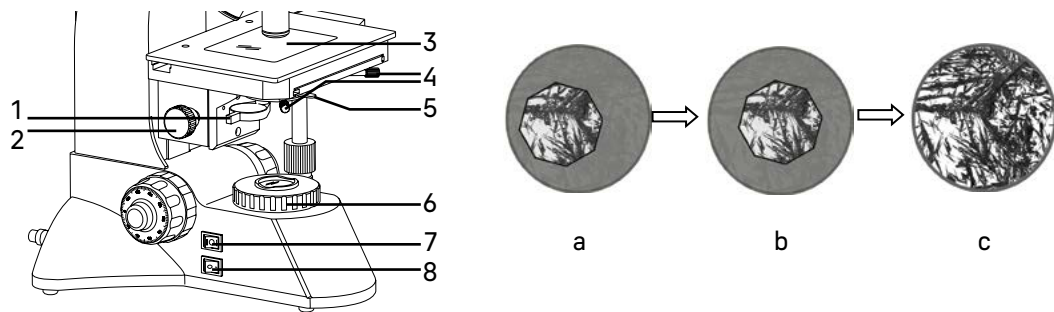

Fig. 12. Centering the condenser
- Make sure that the power supply is on: button 8 (Fig. 12) has been moved to the "—" position.
- Switch on the transmitted light illuminator by setting the switch 7 (Fig. 12) to position "I". Let it run for a while to achieve a stable illumination level.
- Place the sample on the stage 3 (Fig. 12), introduce the 10x objective into the optical path, focus on the specimen, and adjust the eyepieces.
- Open the field diaphragm 6 (Fig. 12) and the condenser aperture diaphragm, and raise the condenser all the way up using the condenser focus knob 2 (Fig. 12).
- Use the condenser centering screws 4 (Fig. 12) to move the image to the center of the eyepiece field of view – Fig. 12b.
- Carefully moving the condenser up and down by rotating the condenser focus knob 2 (Fig. 12), place the condenser into the working position. In this position, the edges of the octagon-shaped image of the closed field diaphragm are sharp and the diffracted blue-green color at the edge of the diaphragm is directed beyond the edge of the diaphragm and not into the field of view.